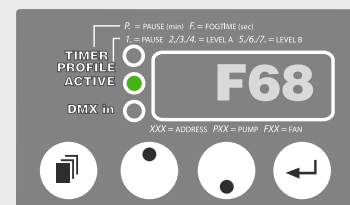

Fig. 3: Value of the Fan
- ☞ **Mode button [13]:** Push until Display shows F + 2 numbers (see Fig. 3)